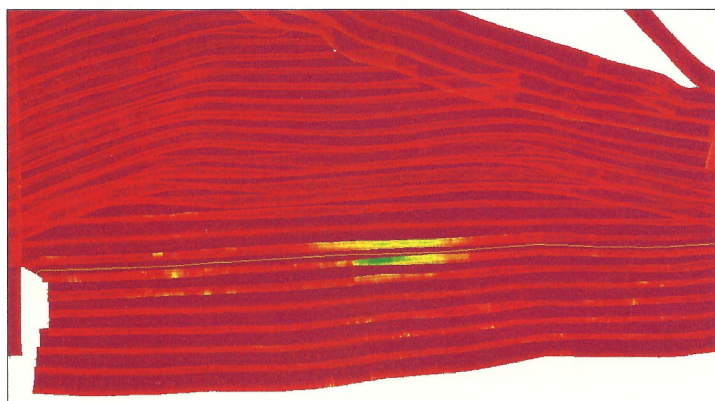

Figure 3: Sample standard deviation surface with GPS tide error
8. Create a new surface and evaluate standard deviation surface for GPS tide errors (Figure 3)